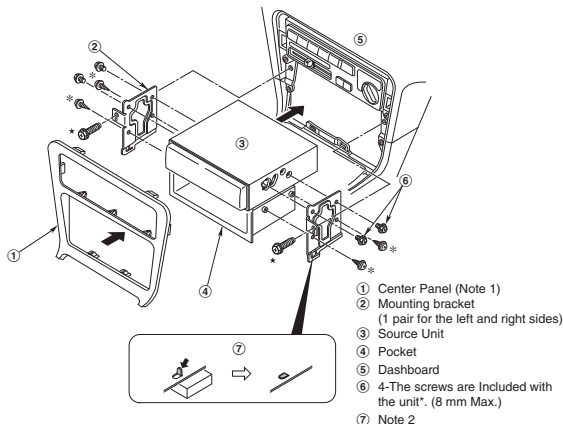

Figure 6
If the vehicle is equipped with a factory-installed radio, install the main unit with the parts and screws marked (★). (Figure 6)
1. Secure the mounting brackets to the chassis as shown in Figure 6. When the main unit is installed without the universal mounting bracket, holes exist; modification, such as drilling new holes, of the mounting brackets may be required for other models.